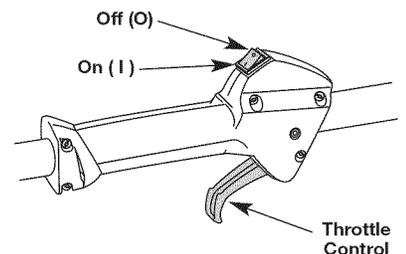

Fig. 15
NOTE: There is no need to turn the unit on. The On/Off Control is in the ON (1) position at all times (Fig. 15).
- Press and hold the On/Off Control in the OFF (O) position until the engine comes to a complete stop (Fig. 15).
- NOTE:** There is no need to turn the unit on. The On/Off Control is in the ON (I) position at all times (Fig. 15).